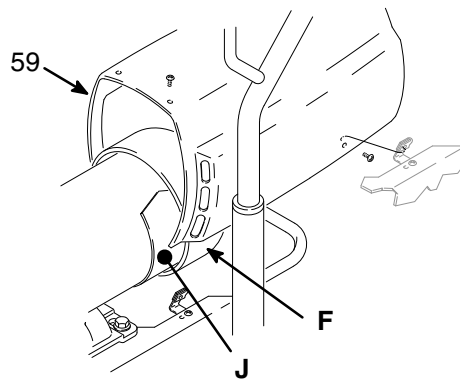

Fig. 11
2. Remove the motor shield (59). Remove the inspection covers (J) and gaskets (K) on each side of the motor. See Fig. 11.